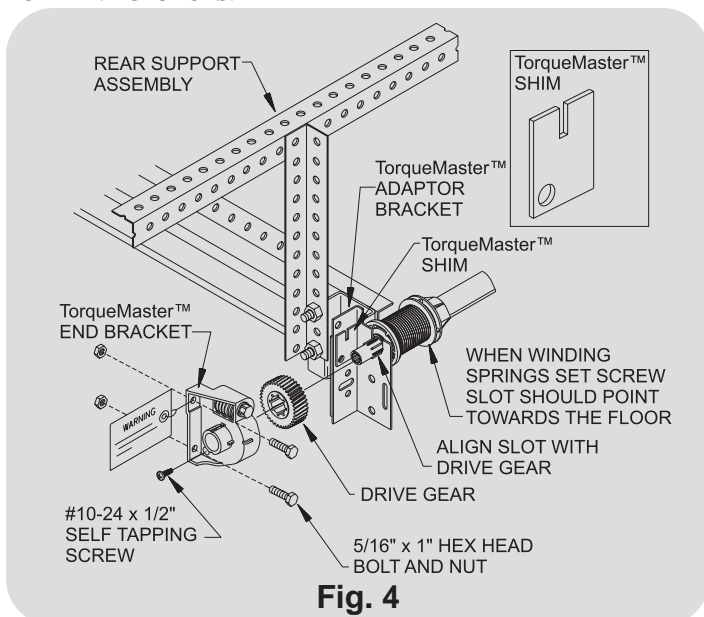

Fig. 4
Lift the TorqueMaster™ tube assembly up. Align the winding shaft grooves with the notches in the TorqueMaster™ Adaptor Brackets as shown in **Fig. 4**. Slide the tube assembly into the notches. Apply oil to the teeth of a drive gear using the provided oil packet and place the drive gear over the winding shaft. Slide the correct end bracket (right or left) over the drive gear. Place (1) 5/16-18 x 1" hex head bolt through the top hole of the bracket and loosely secure with (1) 5/16" nut. Slide the TorqueMaster™ shim behind the bracket, and secure with a second 5/16-18 x 1" bolt and nut. Thread the #10-24 x 1/2" self tapping screw into the TorqueMaster™ adaptor bracket, then tighten both of the 5/16" bolts. Repeat for the opposite end.